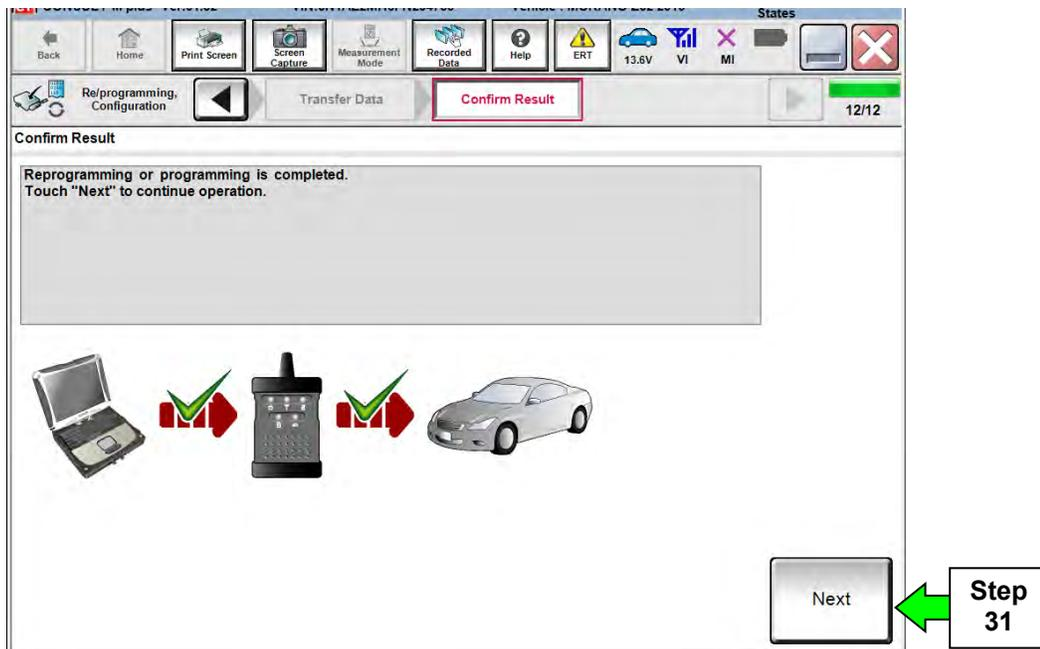

Figure 19
30. When the screen in Figure 19 displays, reprogramming is complete.
**NOTE:** If the screen in Figure 19 is not displayed (which indicates reprogramming did not complete), refer to the information on the next page.